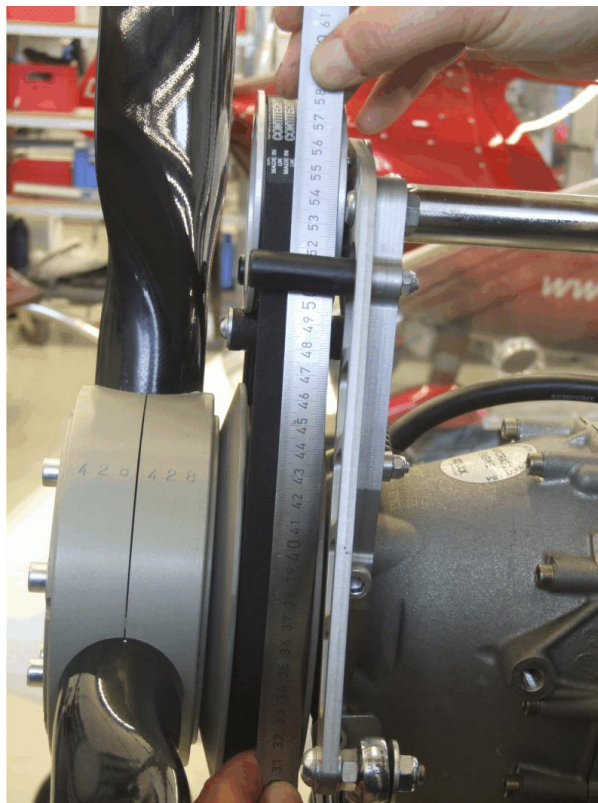

Fig. 2 - Alignment check with ruler
- 2 Inspect alignment of upper and lower pulley. Use a ruler at the flanges (Fig. 2).